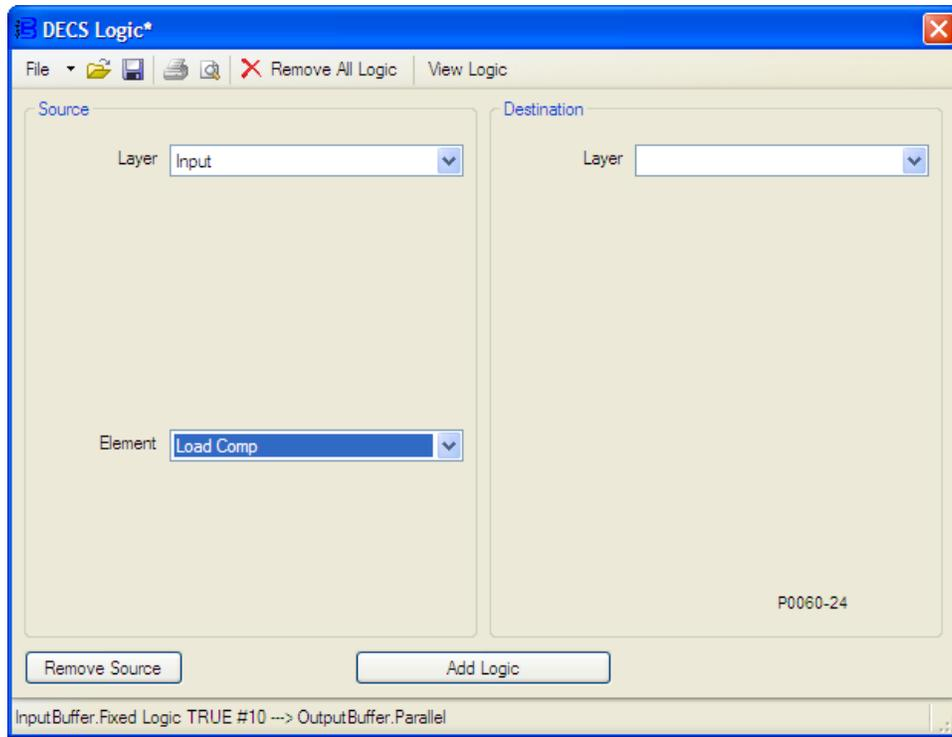

Figure 9-27. Disconnect Load Compensation Input
5. Figure 9-27 illustrates the DECS Logic window settings associated with this step. In the Source portion of the DECS Logic window: